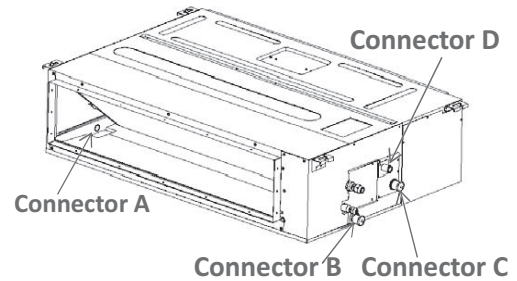

Fig. 43 —Connection of drain pipe to condensate lift pump sizes 24-58K
- d. Plug the power cable of the external pump to CN13 / "PUMP" pin and plug the water level sensor cable to CN5 / "WATER" to enable the pump (see Fig. 43).
3. Sizes 24K, 36K, 48K and 58K have a built-in condensate lift pump. Drain connections (A, B and C) are covered with caps. Connect the drainpipe to connector D (see Fig. 43).